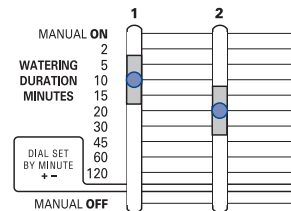

Figure 10: “Slide Switch durations” set at 10 minutes and 20 minutes
- Slide each **Water Duration Slide Switch** to its desired time (from 2 to 120 minutes) for each station. [See Figure 10]